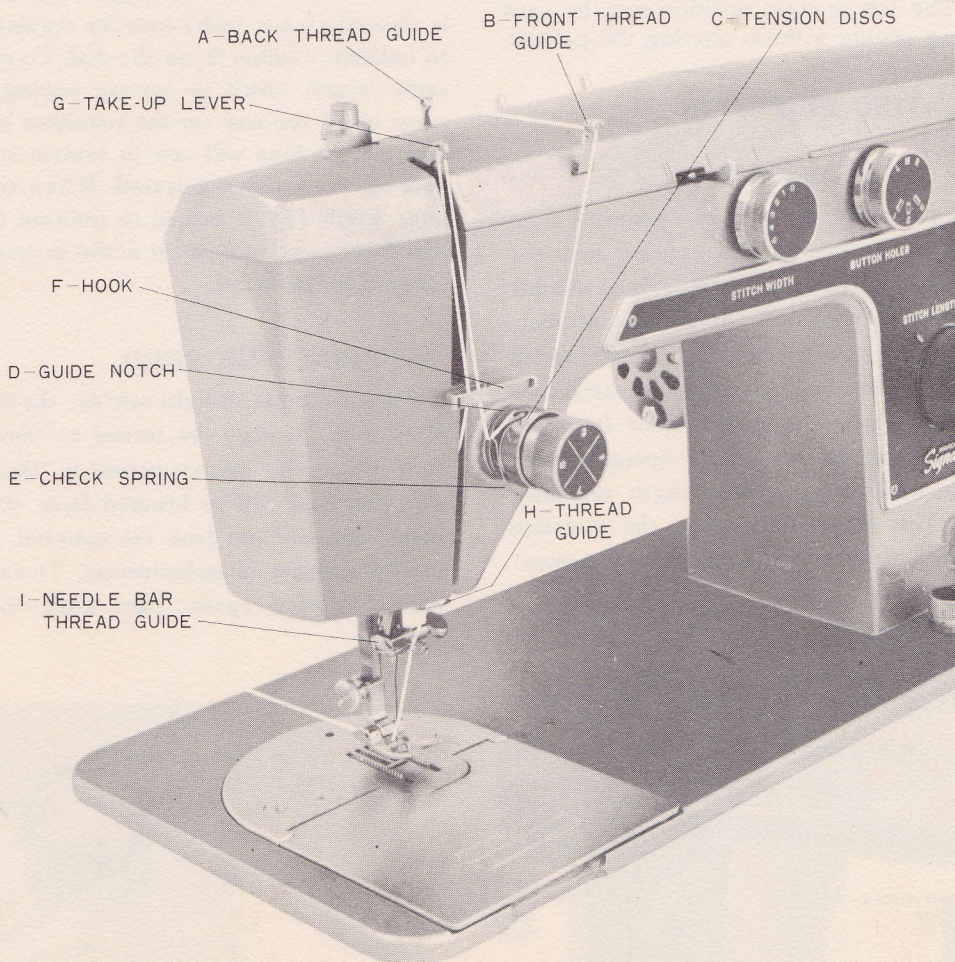

Fig. 9. Upper Threading
Turn the hand wheel toward you until the needle is raised to its highest position. Place a spool of thread on the spool pin, located on the back or rear of the arm. See Fig. 9 for the following letters:
1. Pass the thread through the back thread guide (A). Bring the thread over the arm and through front thread guide (B).
2. Draw the thread downwards to and around between the tension discs (C), from right to left.
3. Now place the thread on the guide notch (D) at the top of the tension dial (see Fig. 9).
4. Bring the thread back down and under the check spring (E) and up through the large hook (F).
5. Pass the thread through the hole at the end of the take-up lever (G) from right to left.
6. Draw the thread down through the large hook (F), the thread guide (H) and the needle clamp guide (I).